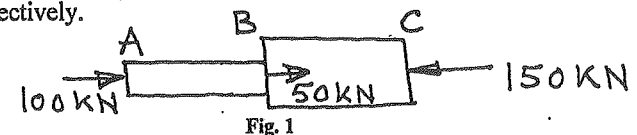

Fig. 1
- 1. The object ABC, shown in Fig. 1, is made by joining an aluminium bar (BC) of 30 mm diameter with a steel bar (AB) of 20 mm diameter. The forces applied are shown. Determine the total deformation of the bar taking E for steel and aluminium as  $2 \times 10^5 \text{ N/mm}^2$  and  $0.7 \times 10^5 \text{ N/mm}^2$  respectively. Lengths of these portions of aluminium and steel are 1 m and 1.2 m respectively. 5